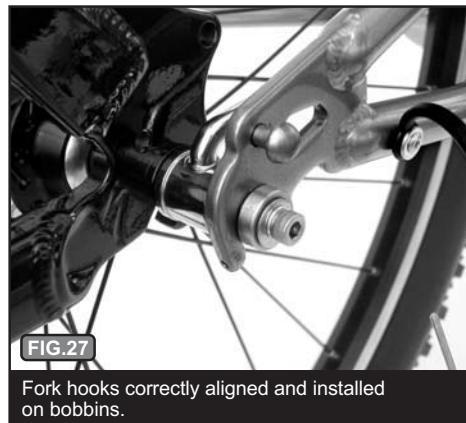

FIG.27
E) Attach the trailer by aligning the slots of the BOBBINS with the slots in the fork hooks. Fig. 27 shows the fork hooks correctly installed on the BOBBINS.